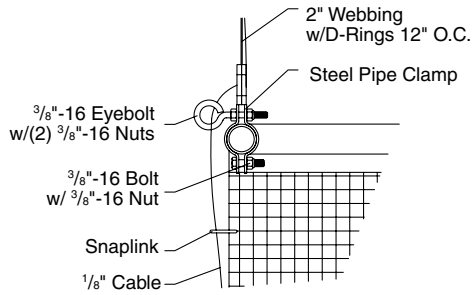

Figure 6
- ⑭ Attach the half clamp assembly with eye bolt to the frame at each belt location per drawings. The bottom (end with only one grommet) of the D-ring belt should be captured in the half-clamp by the eye bolt. Be sure that D-rings face away from the center of the practice cage (see Fig. 6).